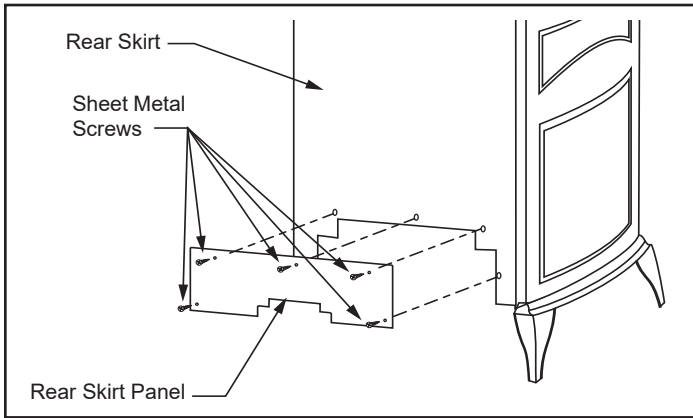

Figure 6 - Remove rear skirt panel.
1. Remove the rear skirt insert panel at the bottom of the Rear Skirt and fasten the blower assembly to the firebox back with the two Phillips pan-head bolts originally installed in the firebox back. ('A', Figure 6)